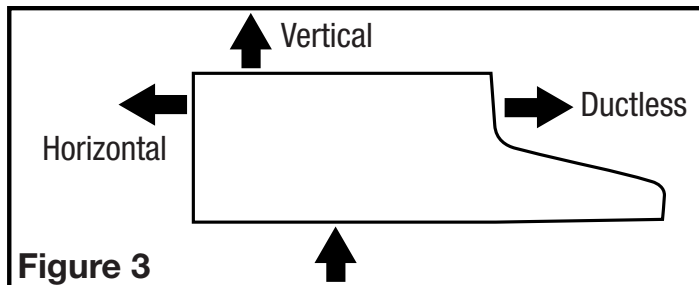

Figure 3
- Choose the type of ducting you will require. This model is equipped to vent either Vertically or Horizontally through a 3-1/4" x 10" duct. It can be modified to be ductless (re-circulates the air back into the kitchen) with the addition of a model CF-06S Charcoal Filter (not included) or vented through a 7" round duct with the addition of a model E-22A or RDC7 Duct Collar (not included) (**Figure 3**).